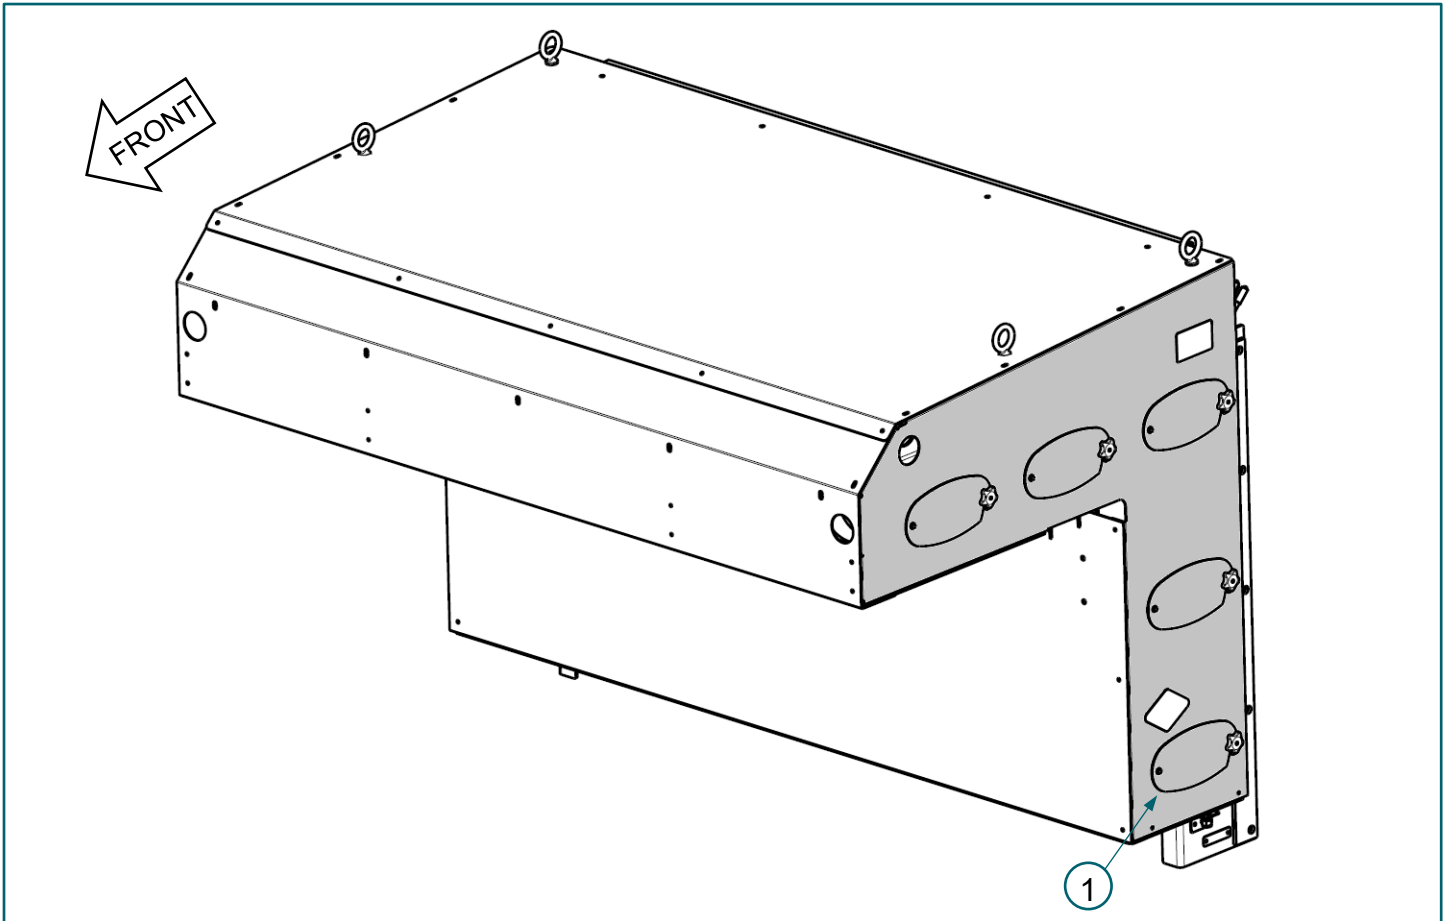

FIGURE 10. Fuel system cover with valve end panel *shaded*
1. Use a battery-powered impact wrench with 7/16-in and 9/16-in impact sockets to reinstall valve end panel using stainless steel fasteners. **FIGURE 10**